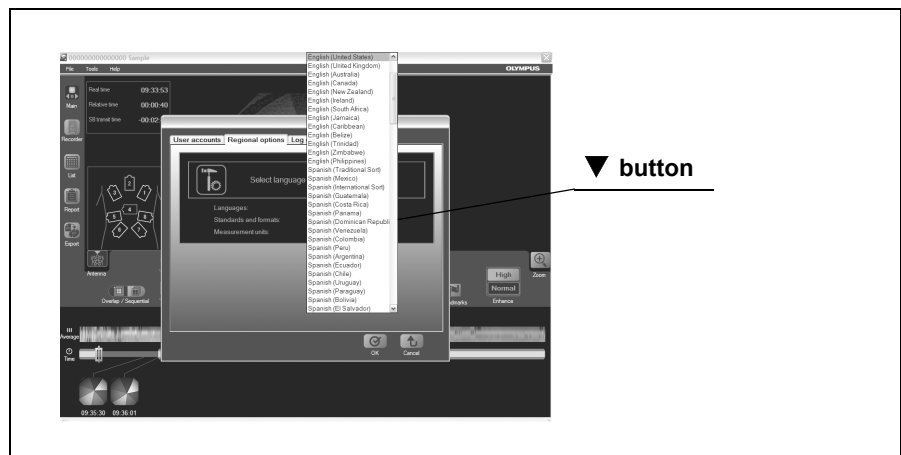

Figure 4.26
4. Click the “▼” to the right of “Standards and formats” to select the region (see Figure 4.26). The format of date depends on the selected region.